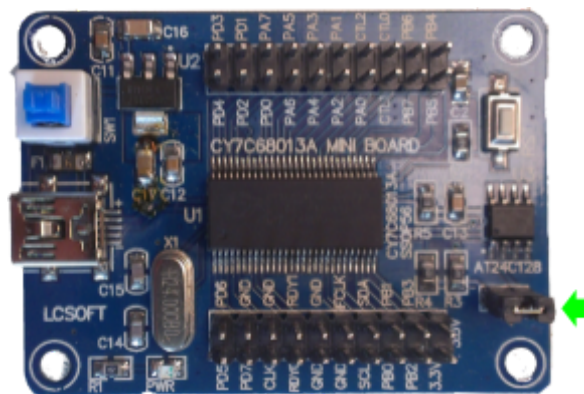

Figure 2 - CY7C68013A MINI BOARD - this board can be used as it is.
- The **CY7C68013A mini board** can be bought on eBay using this search link. Be careful to order a board that looks identical to Figure 2 with **ONLY ONE JUMPER**.